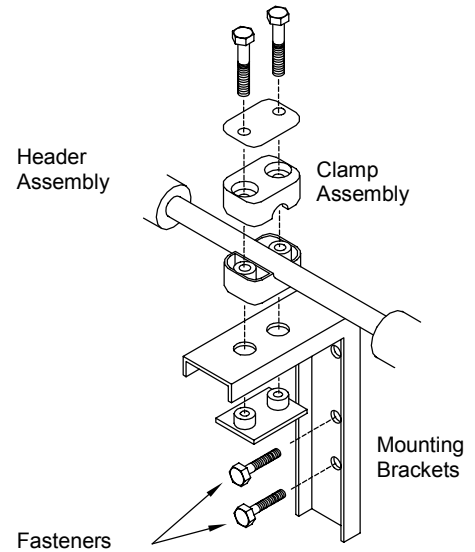

FIGURE 4
4. Mark the mounting holes and install fasteners suitable for the type of wall constructions. (Figure 4)
5. Mount the manifold by placing the header section in the clamp and tighten the mounting bolts. (Figure 4).